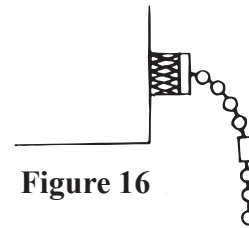

Figure 16
1. The operation of your fan is controlled with a pull-chain switch, which has four (4) positions: Off -- High -- Medium -- Low. Pull the chain gently to obtain the speed you desire.
2. The Break-A-Way Connector is designed to separate from the chain at a predetermined force. If this separation occurs, simply reinsert the connector. It can be used again and again. See Figure 16.